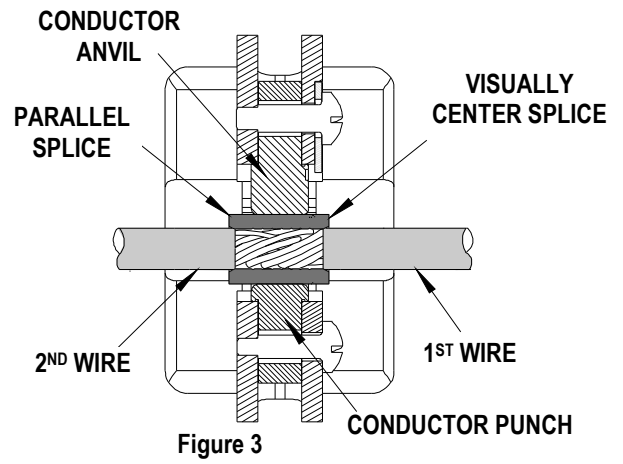

Figure 3
6. When crimping Parallel Splices, insert the 1st wire into one end of splice then insert the 2nd wire into the opposite end of the parallel splice. This procedure will crimp both wires at the same time. Make sure the wires are fully seated into the parallel splice. Position the splice and the wires in the nest with conductor crimp on the conductor barrel of the splice. The splice should be approximately centered inside the tooling nest. See Figure 3. Cycle the tool.